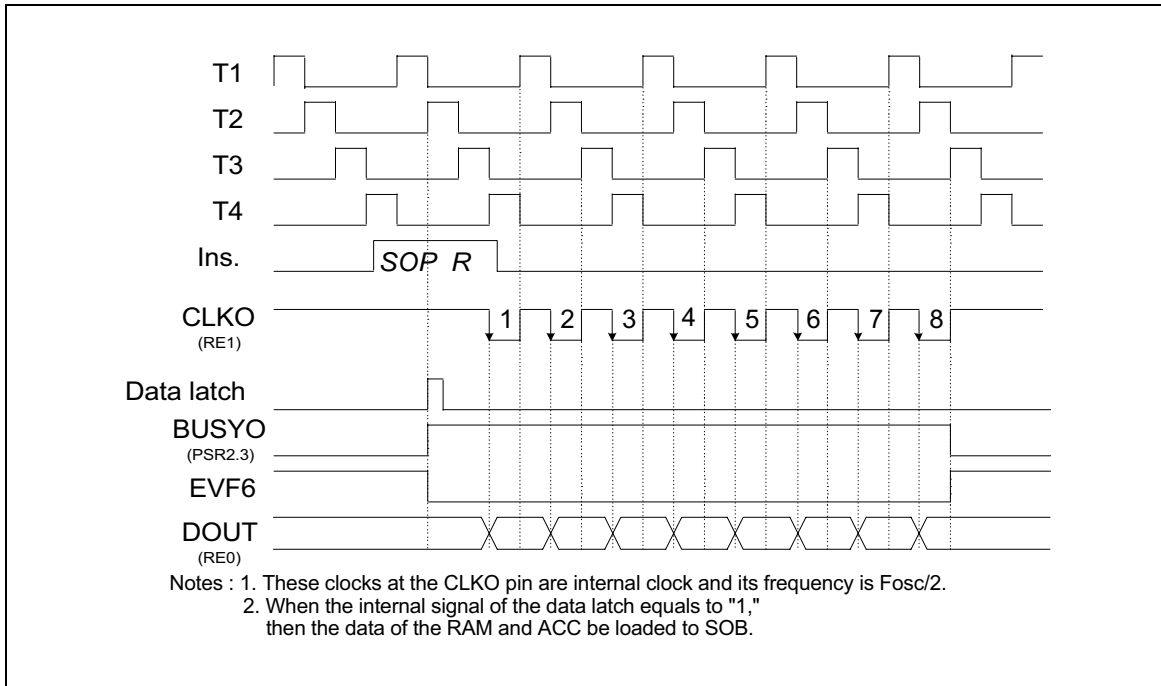

Figure 12. Timing of the Serial Output Function (SOP R)
- (2) When the SOP R instruction is executed, the data will be loaded to the serial output buffer (SOB) and bit 3 of port status register 2 will be set to "1" ($BUSY_O = 1$). Then the CLKO pin will send out 8 clocks and the data in SOB will be sent out at the falling edge of the CLKO pin. After the 8 clocks have been sent, $BUSY_O$ will be reset to "0" and EVF.6 will be set to "1." At this time, if IEF.6 has been set ($IEF.6 = 1$), an interrupt is executed; if HEF.6 has been set ($HEF.6 = 1$), the hold state is terminated. Users can check the status of PSR2.3 ($BUSY_O$) to know whether the serial output process is completed or not. If a serial output process is not completed, and the SOP R instruction is executed again, the data will be lost. The timing is shown in Figure 12.